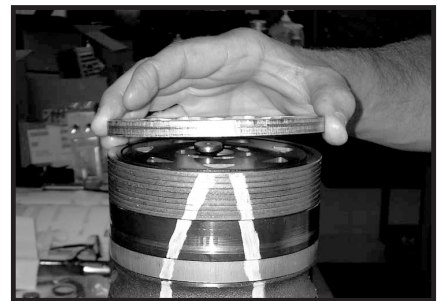

Figure 49
15. Assemble the commutator ring (6) onto the manifold. SEE FIGURE 49.